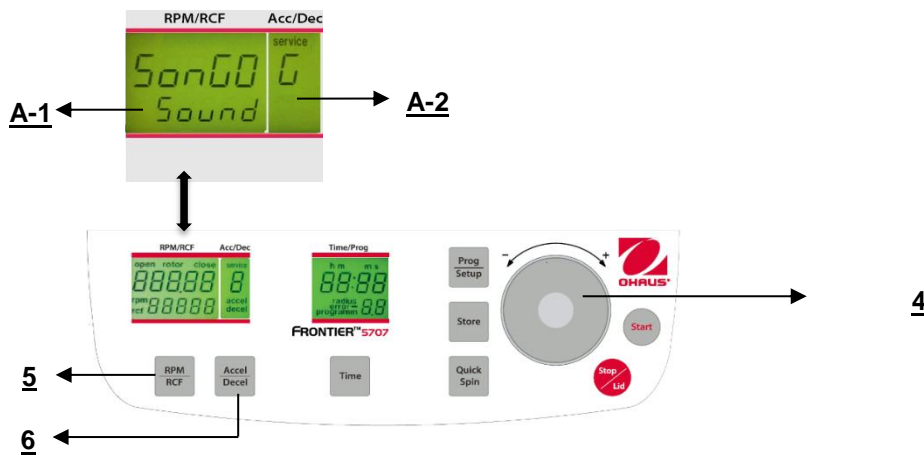

Figure. 31
Proceed as described under point 4.1.2 to enter this program mode and then press the key "Accel/Decel" (6). In the display "Acc/Dec" (A-2) the word "Service" flashes. Now select the letter "G" with the adjusting dial (4). As a result, in the display "RPM/RCF" (A-1), the word "SonGo/Sound" appears. After pressing the key "RPM/RCF" (5), you can select a song with the adjusting dial (4). (See figure 31).